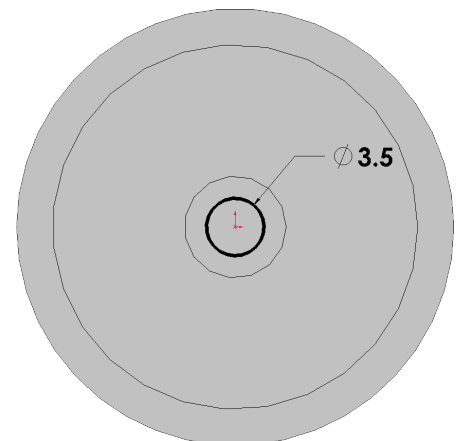

Fig. 21
Step 4. Click **Circle**  (S) on the Sketch toolbar.
Step 5. Draw a circle for hole starting at the Origin , **Fig. 21**.
Step 6. Click **Smart Dimension**  (S) on the Sketch toolbar.
Step 7. Dimension **diameter 3.5** as shown in **Fig. 21**.